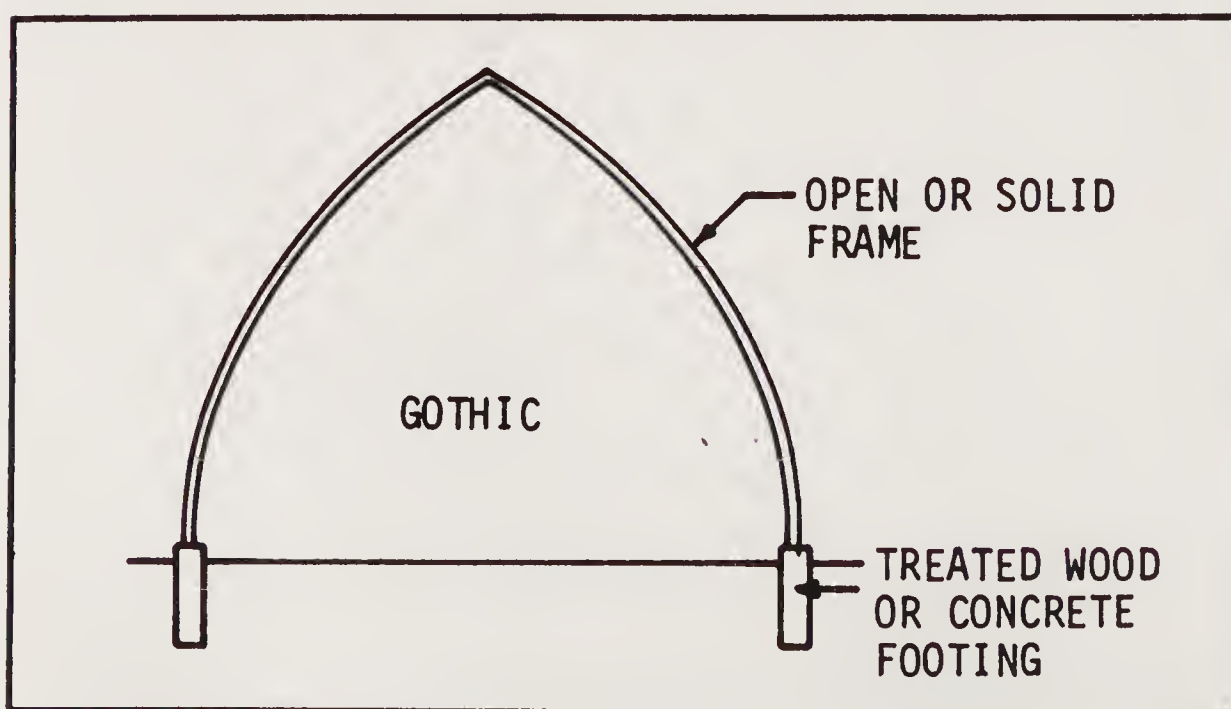

Fig. 1-4. Gothic frame detail.
**Gothic.** This style (Fig. 1-4) is fabricated by bending pipe or laminated wood strips in a Gothic shape to provide a most aesthetic appearance. The Gothic style provides excellent height near the sidewalls. It allows more heat loss than other designs because it has a greater exposed surface-to-ground area ratio. Good air circulation in this style is important in order to prevent air and heat stratification in the gable. The extra volume allows